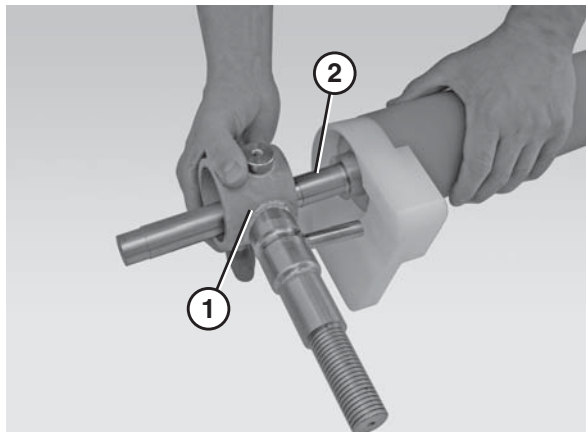

Figure 57
7. Slide the motor support bracket (Figure 57, item 1) off the drive spindle (Figure 57, item 2).